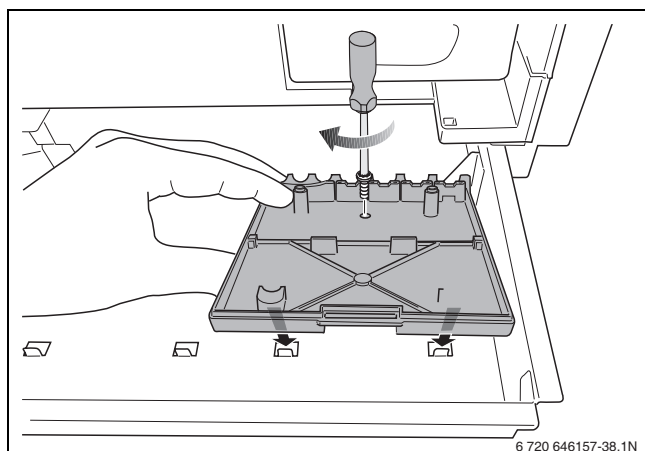

Fig. 42 Installing the wall bracket
- ▶ Install the wall bracket in the relevant slots in the drawer (→ fig. 42).